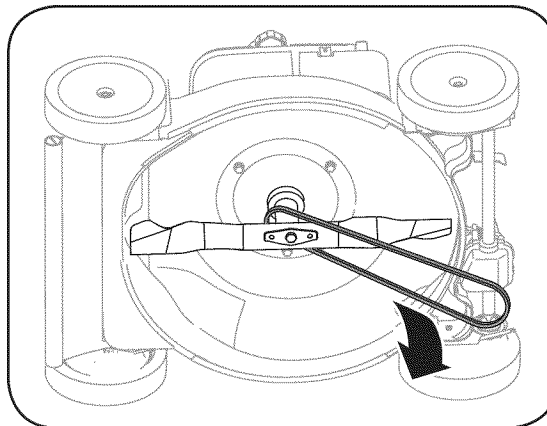

Figure 7
- underside of mower. Slide belt off of engine pulley and around the blade. See Figure 7.